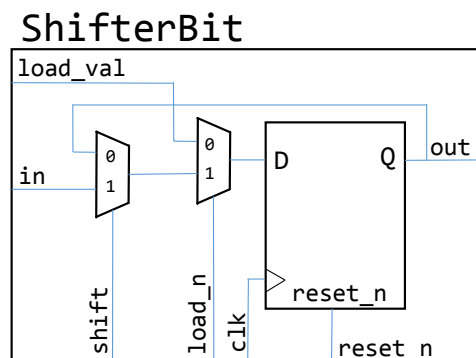
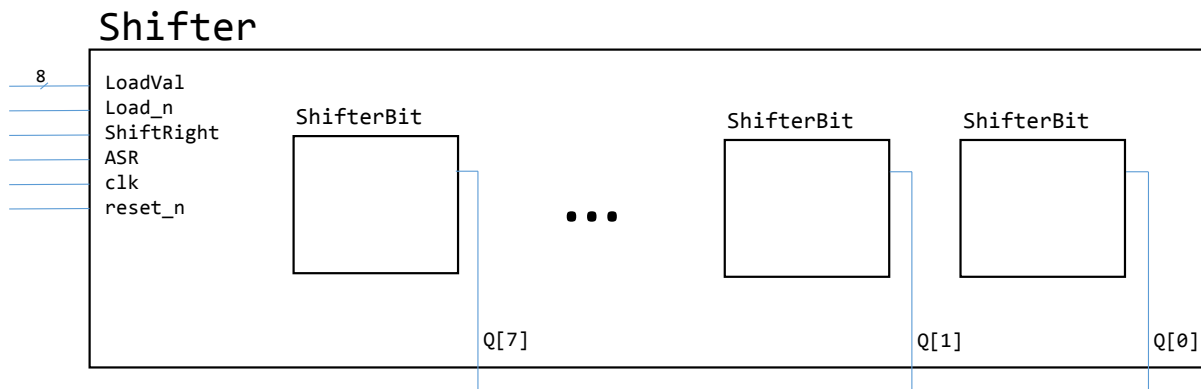

Figure 5: Sub-circuit for Part III.
Figure 6: Shifter circuit for Part III. All required internal connections are **not** shown.
In this part of the lab, you will create an 8-bit right-shift register that has an optional arithmetic shift. A shift register is a collection of flip-flops that move values sequentially between each other on each clock edge. Figure 5 shows one bit of our right-shift register. It contains a positive edge-triggered flip-flop and several multiplexers. To accommodate 8-bits, you will use eight instances of the circuit in Figure 5 to design your right-shift register with optional arithmetic shift and parallel load as shown in Figure 6.
In the Shifter module, create an 8-bit-wide register input *LoadVal*, whose individual wires are tied to each *load_val* input of each ShifterBit instance. Likewise, create an 8-bit-wide output *Q*, whose individual wires stem from each *out* port of each ShifterBit instance. The *shift* input of all eight instances of the circuit in Figure 5 should be tied to the single input *ShiftRight*. The *load_n* input of all eight instances should be tied to the input *Load_n*. This allows an 8-bit value to be loaded into all eight flip-flops on the same clock cycle. The *clk* input of all eight instances should be tied to the single input *clk*. Likewise for *reset_n*. The *in* input of all eight instances, should be connected to the *out* port of the instance to its left, because when you want to shift the bits right, you have to use the bit from the left - except for the leftmost ShifterBit instance. In this special case, you should design a circuit that will perform sign-extension when the signal *ASR* is high (arithmetic right shift) and will load zeros if *ASR* is low (logic right shift). This special circuit is not shown in the figures below.
1. What is the behaviour of the 8-bit shift register shown in Figure 6 when $Load_n = 1$ and $ShiftRight = 0$? Briefly explain. **(PRELAB)**
2. Draw a schematic for the 8-bit shift register shown in Figure 6 including the necessary connections. Your schematic should contain eight instances of the sub-circuit in Figure 5 and all the wiring required to implement the desired behaviour. Label the signals on your schematic with the same names you will use in your Verilog code. **(PRELAB)**
3. Starting with the code in Figure 2 for a flip-flop, use this D flip-flop with instances of the *mux2to1* module from Lab 2 to build the sub-circuit shown in Figure 5. To get you started, Figure 7 is a sample of hierarchical code showing the D flip-flop with one of the 2-to-1 multiplexers connected to it. **(PRELAB)**
4. Write a Verilog module for the shift register that instantiates eight instances of your Verilog module for Figure 5. This Verilog module should match with the schematic in your lab book. Use SW_{7-0} as the inputs $LoadVal_{7-0}$ and SW_9 as a synchronous active low reset. Use KEY_1 as the $Load_n$ input, KEY_2 as the $ShiftRight$ input and KEY_3 as the ASR input. Use KEY_0 as the clock. The outputs Q_{7-0} should be displayed on the LEDs ($LEDR_{7-0}$). **(PRELAB)**